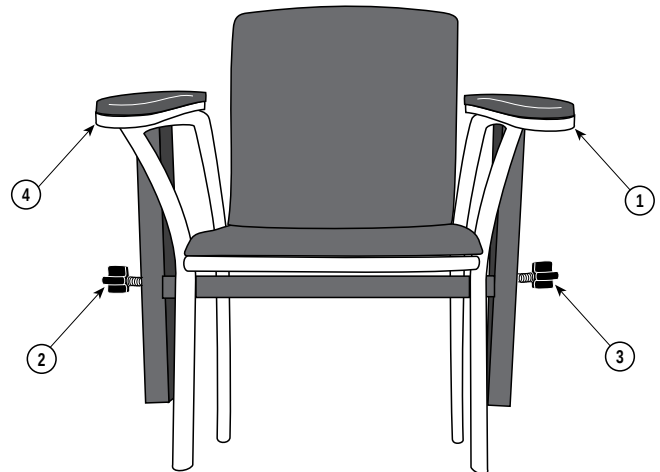

FIGURE 6
1. The **165-002 Blood Drawing Chair with Fixed Arm** is shipped from the factory with the fixed arm assembly (1, Fig. 6) mounted on the left-hand side. To convert the fixed arm assembly to a right-hand mounting, loosen knobs "2" and "3" (Fig. 6).
2. Remove the fixed arm assembly (1, Fig. 6) on the left-hand side from the "H"-Frame and set the arm assembly aside.
3. Remove the rotating arm assembly (4, Fig. 6) from the "H"-Frame and install it into the other side of the "H"-Frame. Be sure the locking knob (2, Fig. 2) of the rotating arm (1, Fig. 2) is positioned to the front of the chair.